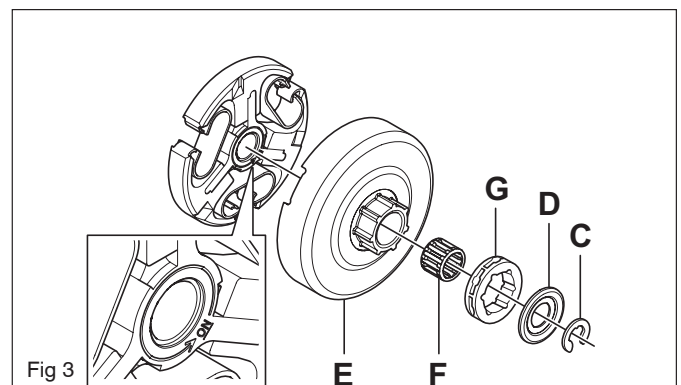

Fig 3
6. Remove the locking ring (C) with washer (D) and lift up the clutch drum (E) with needle bearing (F) and chain drive sprocket (G). See fig. 3.
12. Grease in the needle bearing before fitting. Fit the clutch drum (E) with needle bearing (F) and chain drive sprocket (G). See fig. 3.